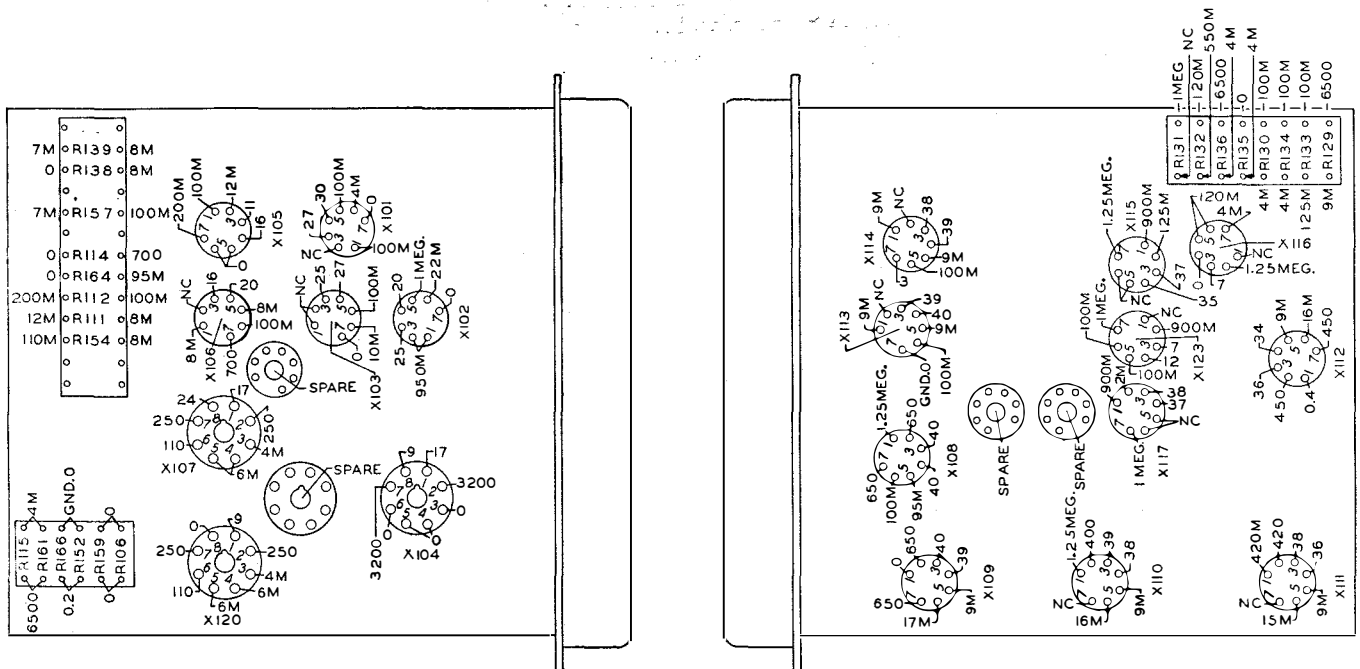

Figure 5-9—Tube Socket to Ground Resistance Measurements
(4) Using an ohmmeter, refer to figure 5-9 and to a schematic diagram of the stage found to be inoperative and carefully check the circuit wiring and each component. Proceed as follows: